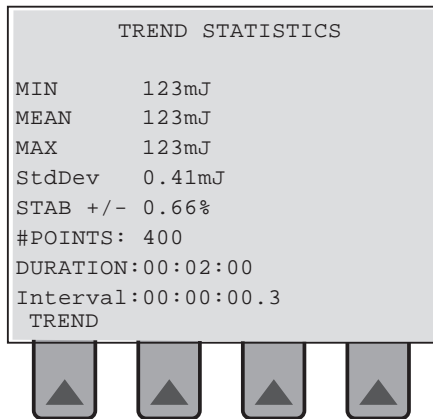

Figure 23. Trend Statistics Screen, Time Mode
**STAT** - Press this soft key to view the statistical results of the data measured. The screen which appears will be similar to Figure 23 with a CW Detector.